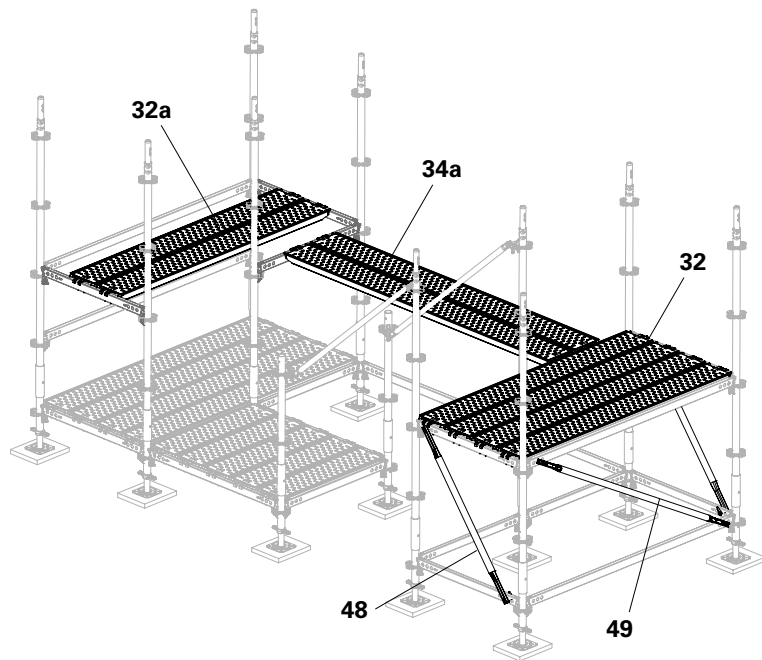

Fig. A8.06
3. Fit the Ledger Braces UBL-2 (**48 + 49**) in the upper horizontal ledger with the mounting finger and the tilt finger in the lower horizontal ledger, see Section "Decks and braces" on page 31. (Fig. A8.06)